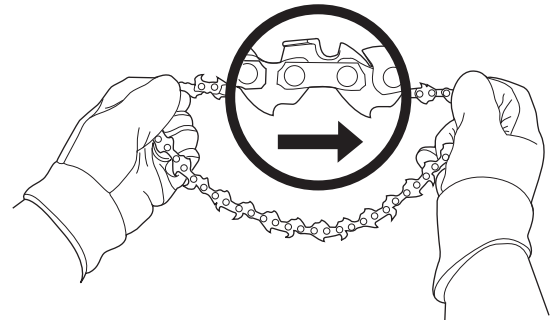

Fig. 11
4. Fit the new saw chain into the guide bar groove with the cutting edges of the saw chain pointing in the direction of rotation (Fig. 11).